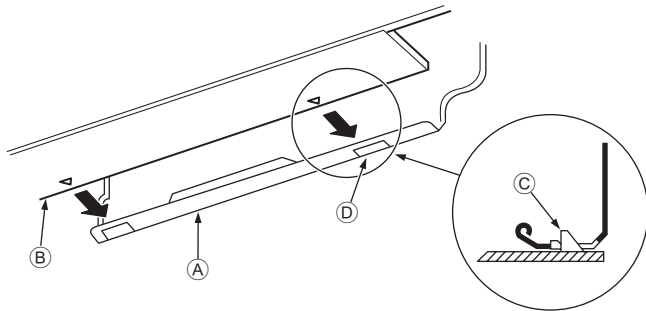

Fig. 3-15
3. While inserting the refrigerant piping and drain hose into the wall penetration hole (penetration sleeve), hang the top of the indoor unit to the mount board ①.
5. Fasten by pushing the bottom part of the indoor unit onto the mount board ①. (Fig. 3-15)
- * Check that the knobs on the bottom of the indoor unit are securely hooked into the mount board ①.